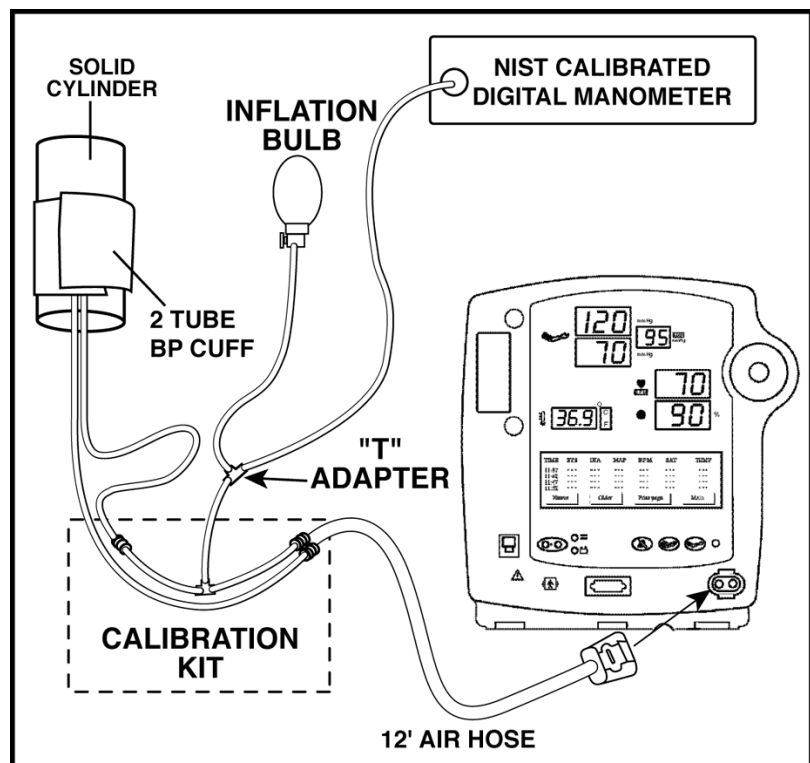

Figure 4-1
1. Set up the unit and calibration equipment as shown in Figure 4-1.